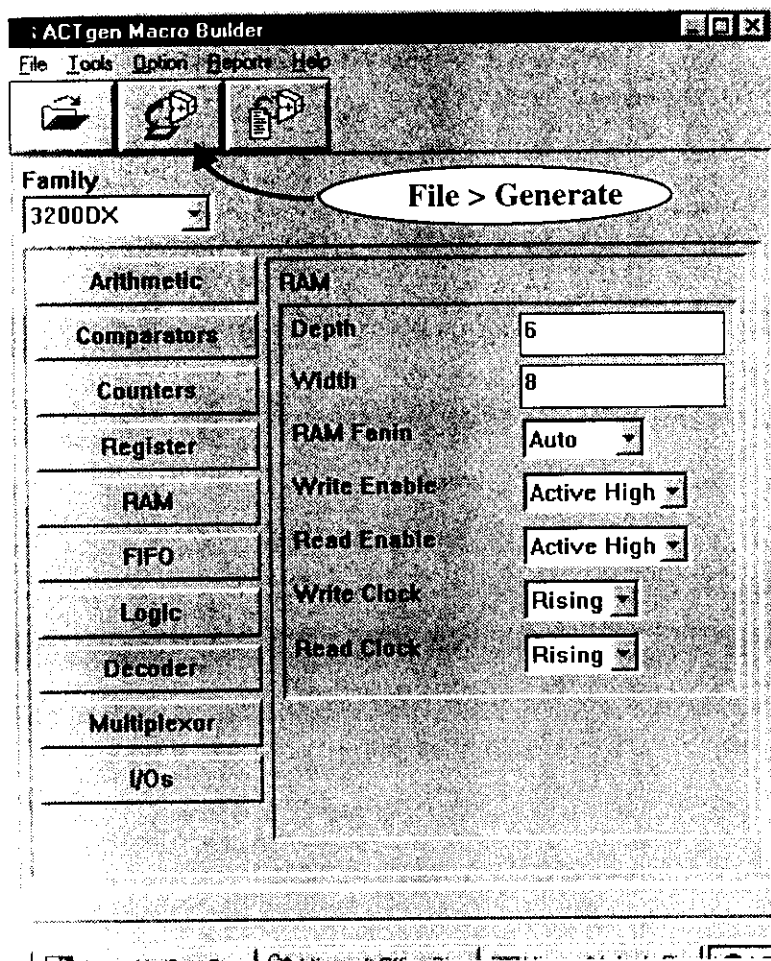

Figure 2. The ACTgen RAM Window
7. Verify that your settings match those shown in Figure 2.
8. Click the **File > Generate** button (as shown in Figure 2.)